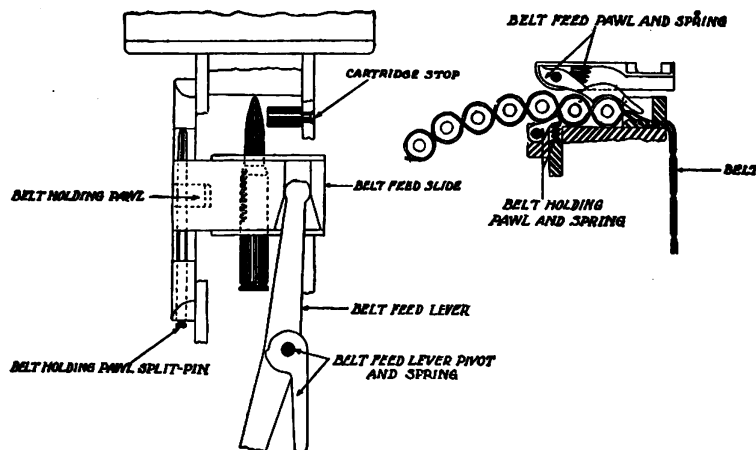

FIGURE 36.—Belt feed mechanism, caliber .30 machine gun.
Q. Point out and state the uses of the important parts of the belt feed mechanism of the caliber .30 machine gun. A. See figure 36.